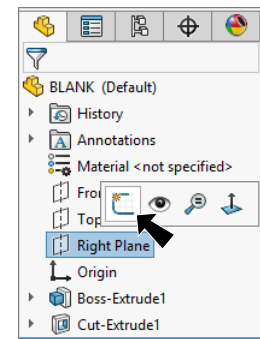

Fig. 13
Step 1. Click **Right Plane**  in the Feature Manager and click **Sketch**  on the context toolbar, **Fig. 13**.